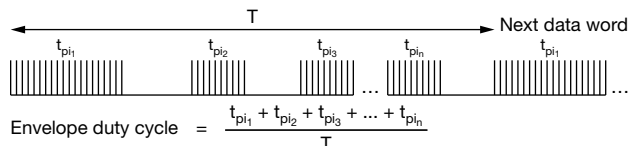

Fig. 1 - Definition of the Envelope Duty Cycle
- The parts table, which can be found on the first page of the IR-receiver datasheets lists the most popular IR remote control data formats and the IR receiver types suitable for receiving them. If a data format is not mentioned, then carrier frequency, burst length, and repetition time of the data signal should be cross checked against the receiver type. This can be accomplished by checking the maximum envelope duty cycle diagram in the datasheet. The envelope duty cycle is defined by the burst length divided by the repetition time. In more complex IR codes all the burst durations in a data word can be summed up and divided by the data word repetition time as illustrated in Fig. 1. Accepted signals must lie below the maximum envelope duty cycle curve. If there is uncertainty regarding the selection of the type, we recommend the general purpose TSOP13438 series or contact the technical support [IRR@vishay.com](mailto:IRR@vishay.com).
The tolerances of the output pulse width ( $t_{po}$ ) with respect to the input burst length ( $t_{pi}$ ) is given in the expression shown in Fig. 1, “Output Delay and Pulse Width” on the datasheets, for example: